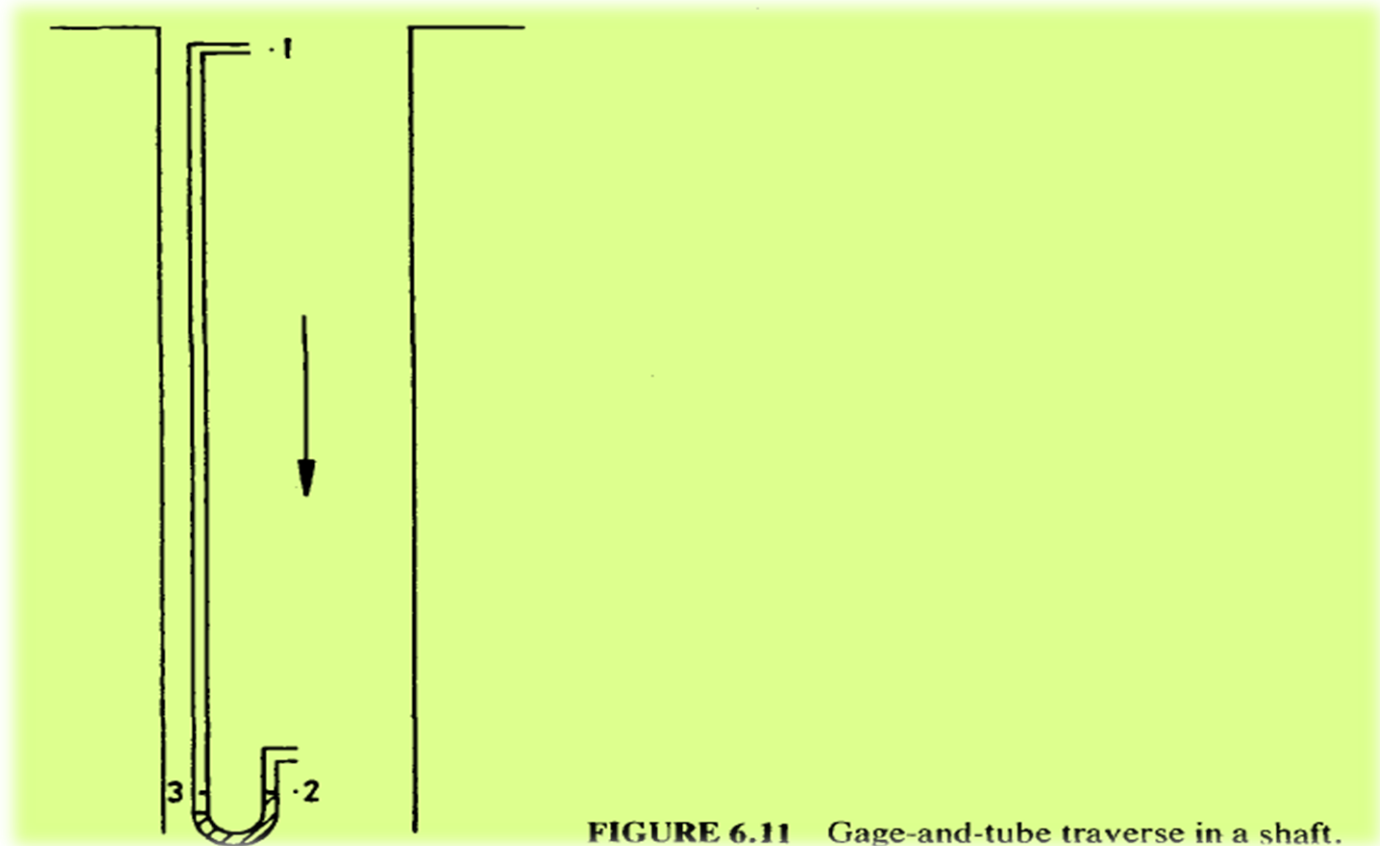

FIGURE 6.11 Gage-and-tube traverse in a shaft.
- The following data are obtained in a trailing-hose survey (Fig. 6.11) in a vertical intake shaft. The manometer is at the bottom of the shaft and reads 1.51 in. water. Calculate the correction to the manometer reading.:
- The manometer reading is the difference ($p_1 - p_2$) in Fig. 6.11. To determine the correction, the mean specific weights of the air in the shaft (column 1-2) w_s , and the hose (column 1-3) w_h , must be calculated.